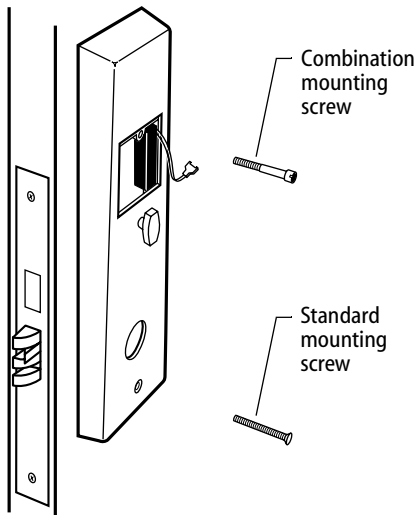

Figure 13
- Tighten the trim mounting screws (see Figure 13).